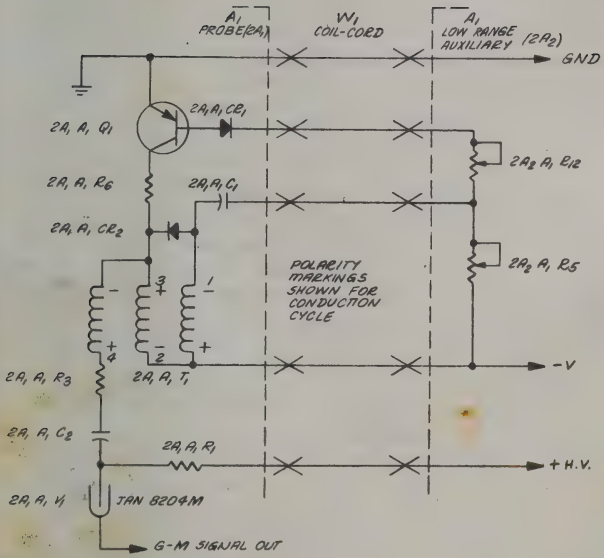

Figure 4-5. Driver Pulse Blocking Oscillator
(2) Driver pulses are generated by another blocking oscillator comprised of 2A1A1Q1 and 2A1A1T1 (part of the probe assembly). With reference to the simplified drawing, Figure 4-5, Q1 initially conducts base current through a low impedance path of R12, C1, winding 1-2 of T1 and CR1 and winding 3-2 of T1 tending to charge C1. This base drive causes collector current through winding 3-2 (peak limited by R6) inducing a voltage in winding 2-1 that backbiases CR1 and causes C1 to charge more rapidly. The circuit regenerates in this manner until C1 is fully charged at which time Q1 is back biased and collector current ceases. At this time the flyback voltage of T1 is clamped by CR1 and the circuit remains non-conducting until C1 discharges through a high resistance path, R5 and winding 2-1 to where Q1 is again forward biased. During the